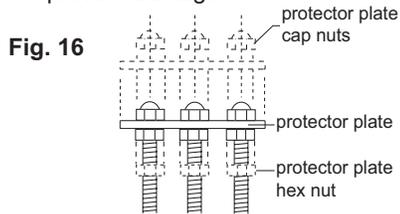

Fig. 16
- Remove the cap nuts, protector plate, protector plate hex nuts, and sensor cable grommet. (Fig. 16)